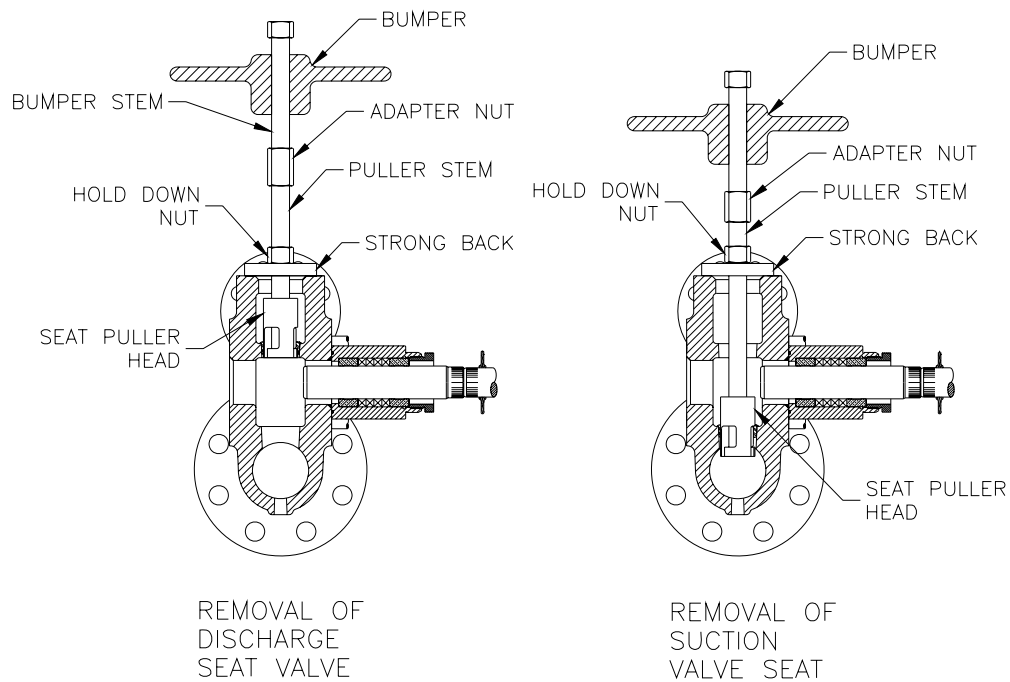

FIGURE 11
- g. Use the special valve puller and remove the seat. See Figure 11.